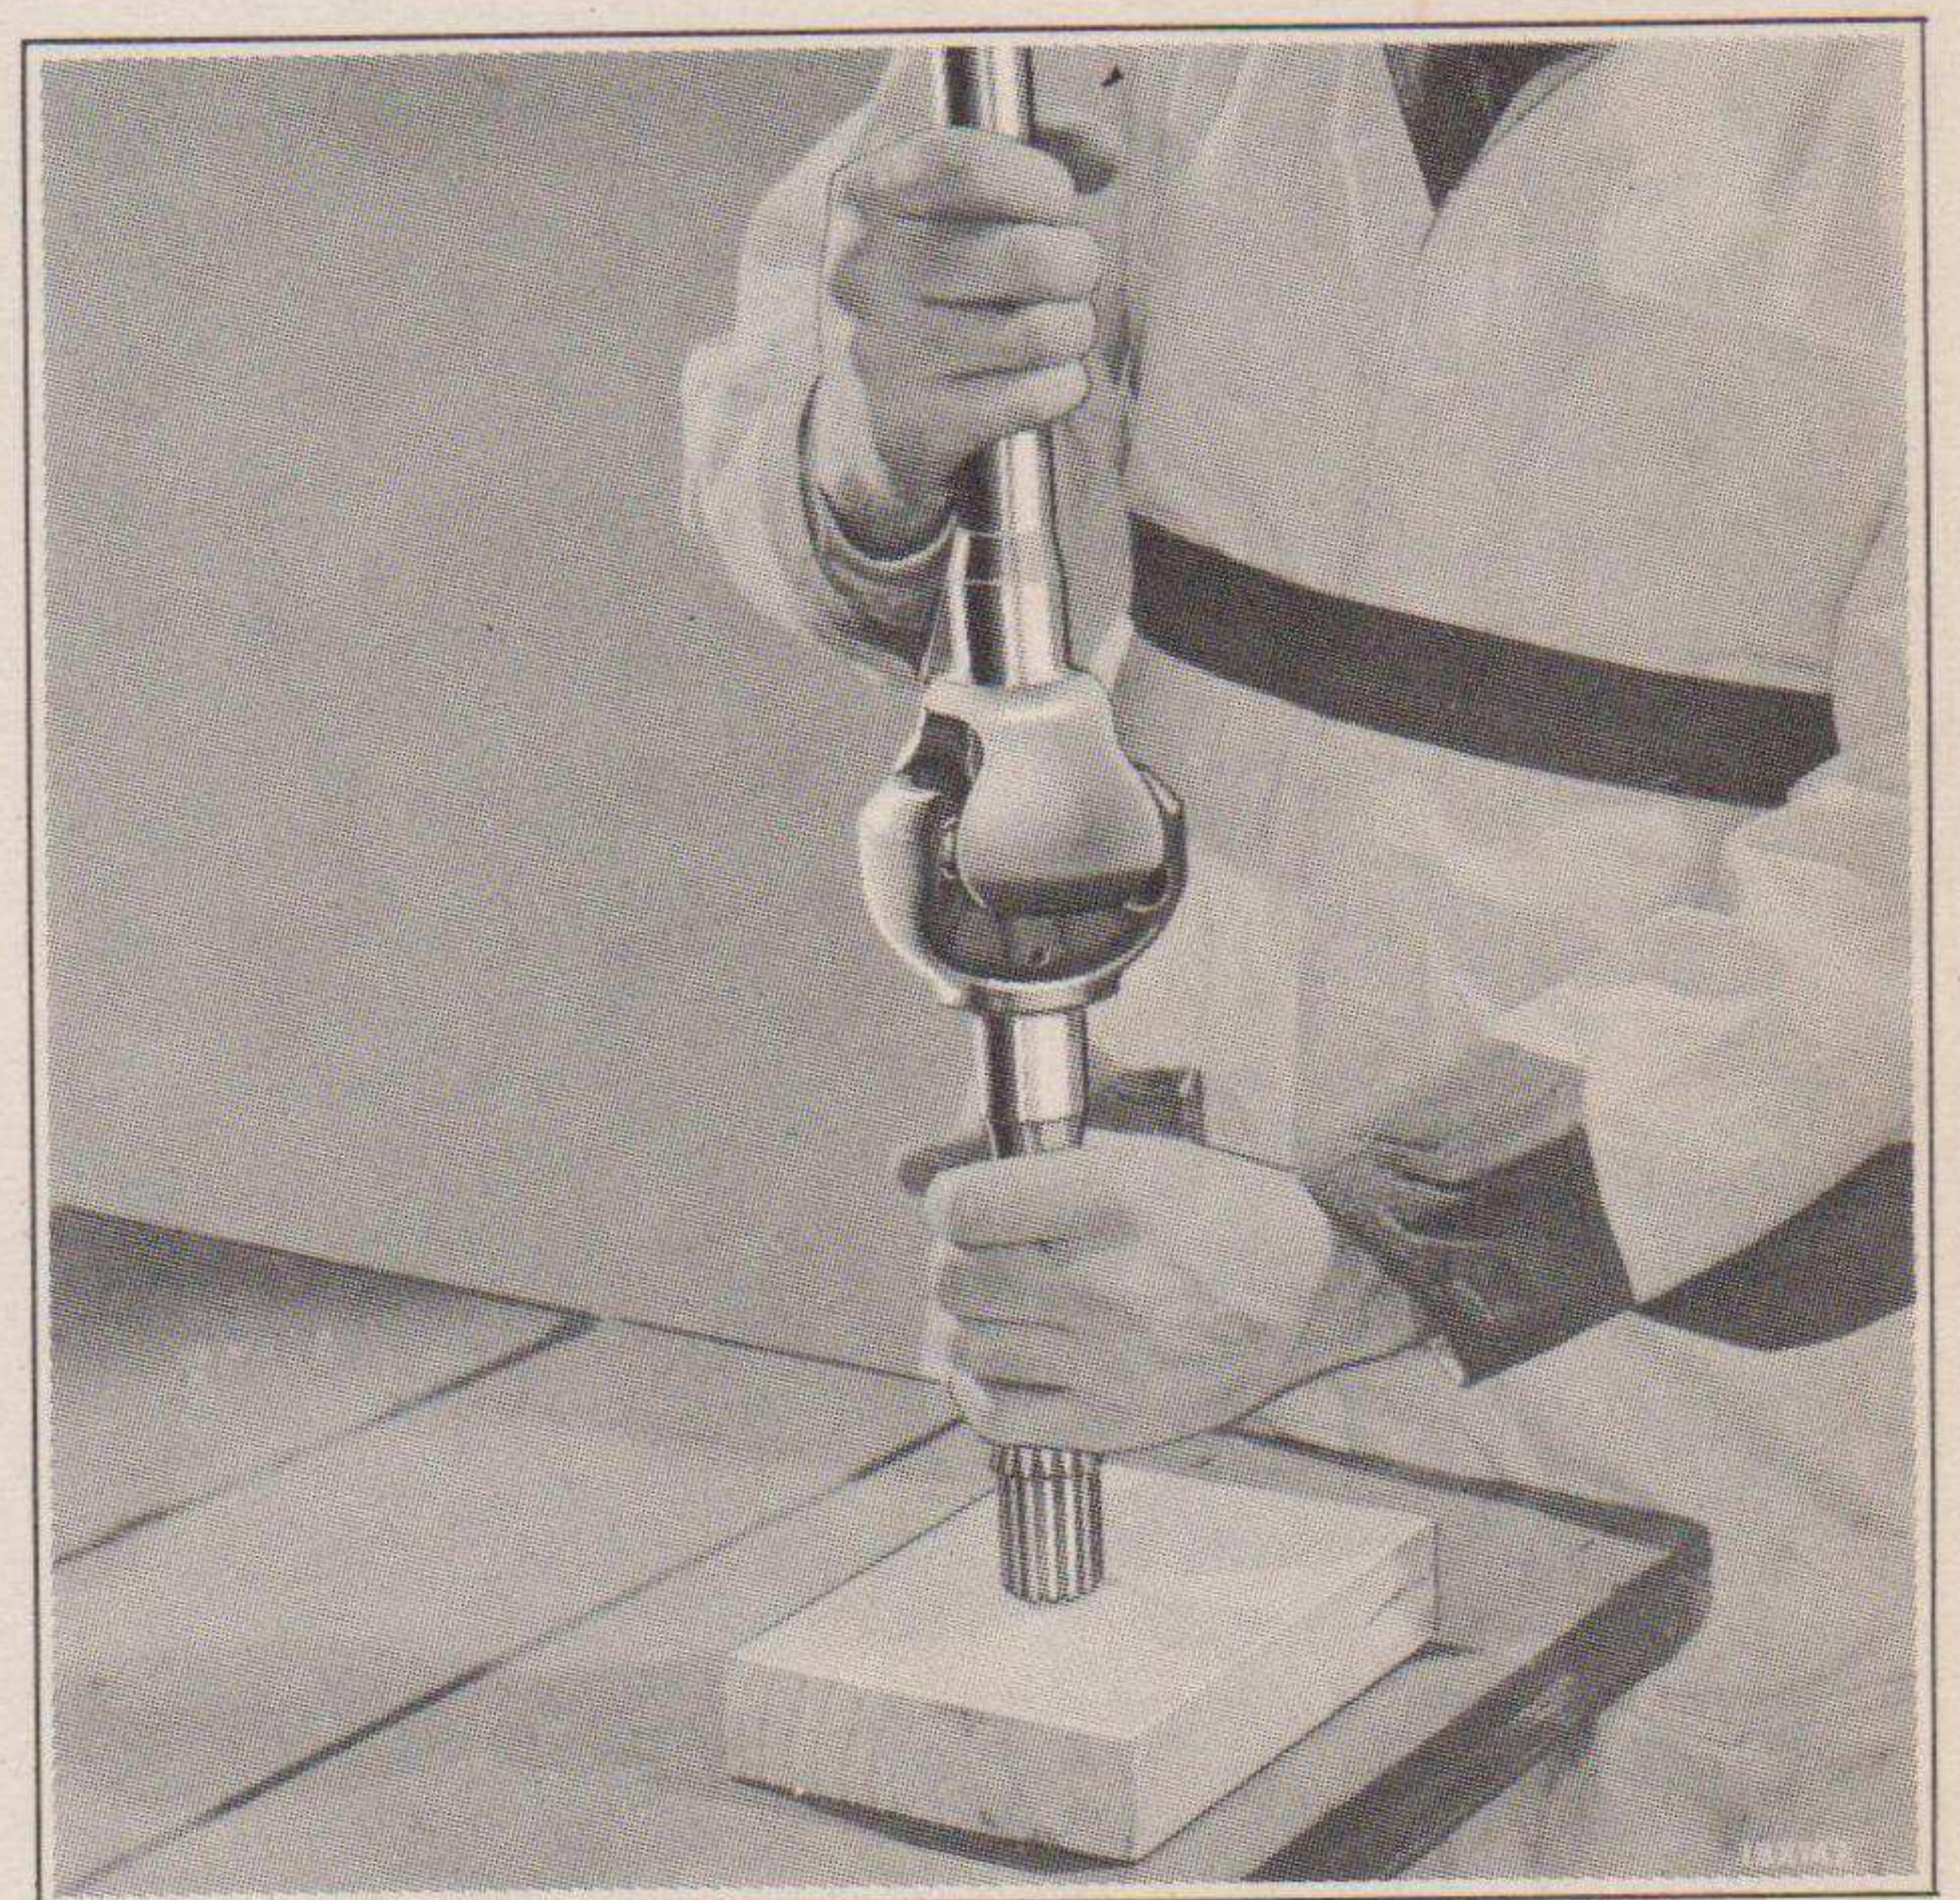

Fig. 17—Dislodging Universal Drive Center Ball Pin (Bendix-Weiss)
- (c) Bounce the end of the short shaft on a wooden block as shown in Fig. 17 to dislodge the center ball pin, allowing the pin to move farther in the drilled passage in the short shaft. If the lubricant holds the center ball pin in position in the ball, it may be dislodged by means of a pointed instrument inserted in the retainer pin hole.